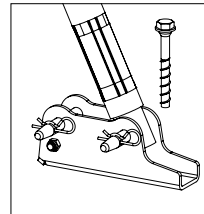

Fig. A5.01b
4. Fix push-pull prop to the Base Plate with bolts and cotter pins. (Fig. A5.01b)